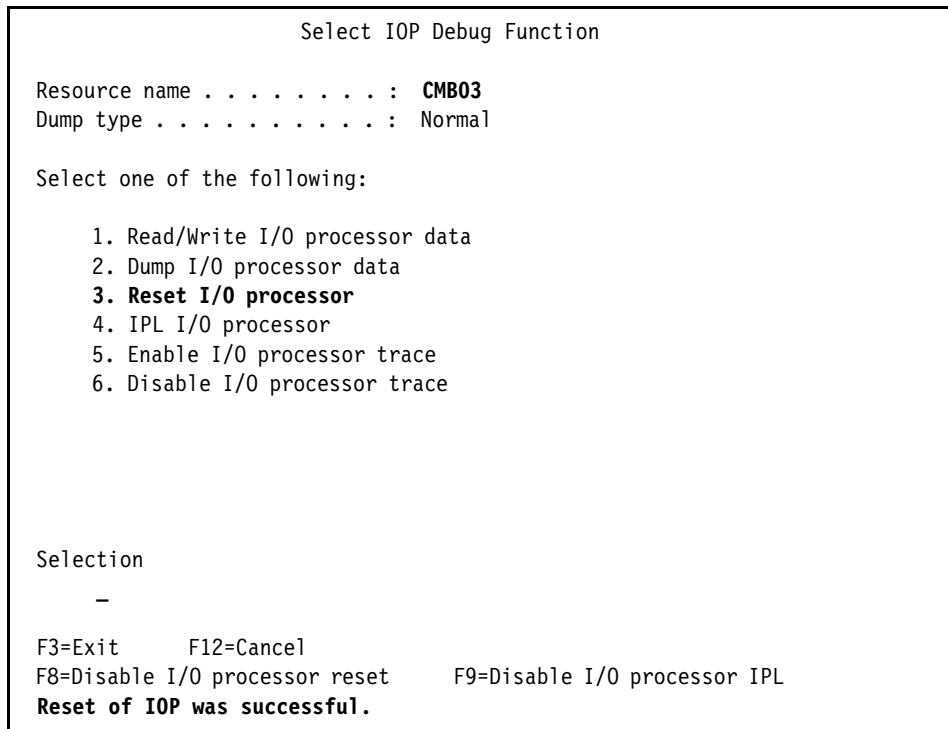

Figure 9-4 IBM i Select IOP Debug Function panel: Reset I/O processor option
3. Select the **Reset I/O processor** option, as shown in Figure 9-4.